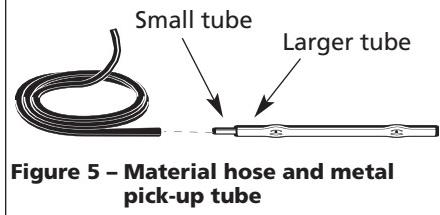

Figure 5 – Material hose and metal pick-up tube
- Make sure switch is in the (O) OFF position
- Make sure the material hose is securely attached to the smaller tube (and does not touch the larger tube) of the metal pick up (see Figure 5).